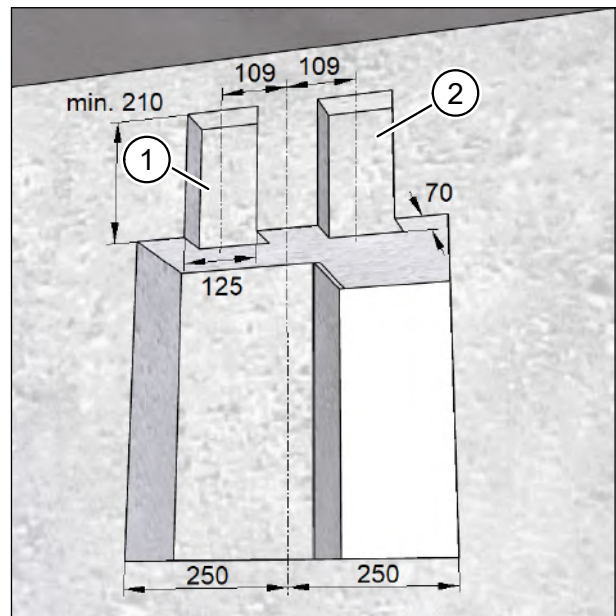

Fig. 11: Chasing out channels for flat ductwork connections, dimensions in millimetres
- ▶ Use the wall chaser to chase out two channels 125 mm wide, 70 mm deep and at least 210 mm high (see Fig. 11) for both the extract air duct (item 1 in Fig. 11) and the supply air duct (item 2 in Fig. 11).